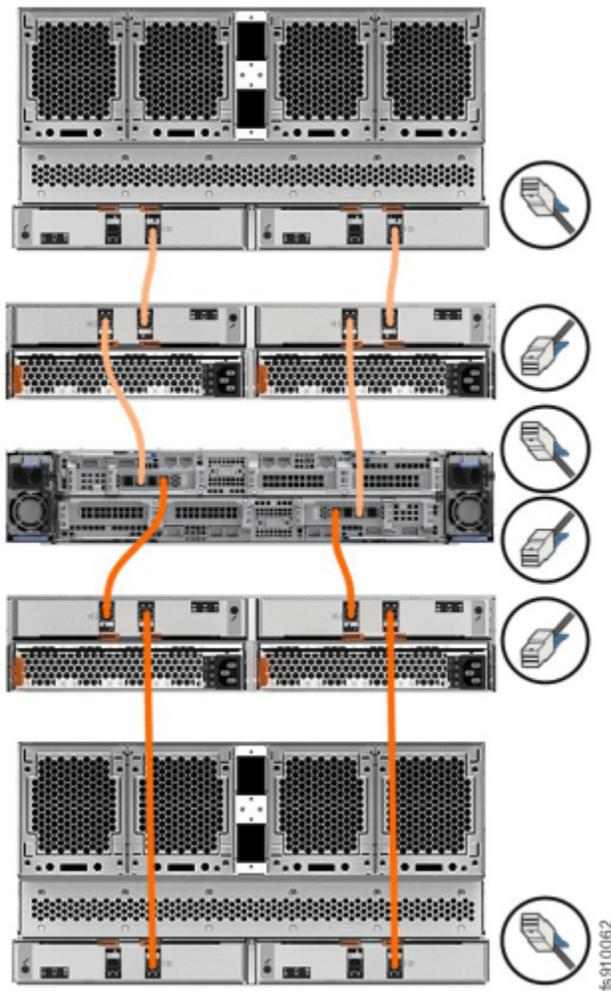

Figure 64. Connecting the SAS cables to control enclosure
- The FlashSystem models support 4-port SAS interface adapters. However, only ports 1 and 3 are used for SAS connections, as Figure 64 on page 107 shows.
- See “Enclosure location guidelines” on page 56 for the number and type of expansion enclosures that can be chained to SAS port 1 and SAS port 3 of a node canister. The expansion enclosures in this chain must be installed below the control enclosure (as shown in Figure 64 on page 107).
- Figure 64 on page 107 shows an example configuration of a control enclosure that is connected to two SAS chains.
- Figure 64 on page 107 is a generic cabling diagram intended to illustrate how to cable the different types of expansion enclosure. Some systems do not allow for a mixture of expansion enclosure types in the same chain. See Chapter 4, “Expansion enclosures,” on page 39 for details on the supported expansion enclosures for your specific system model.
Using the supplied SAS cables, connect the control enclosure to the expansion enclosure at rack position 1, as shown in Figure 64 on page 107.
To add further expansion enclosures, continue to connect the expansion canisters as shown in Figure 64 on page 107.